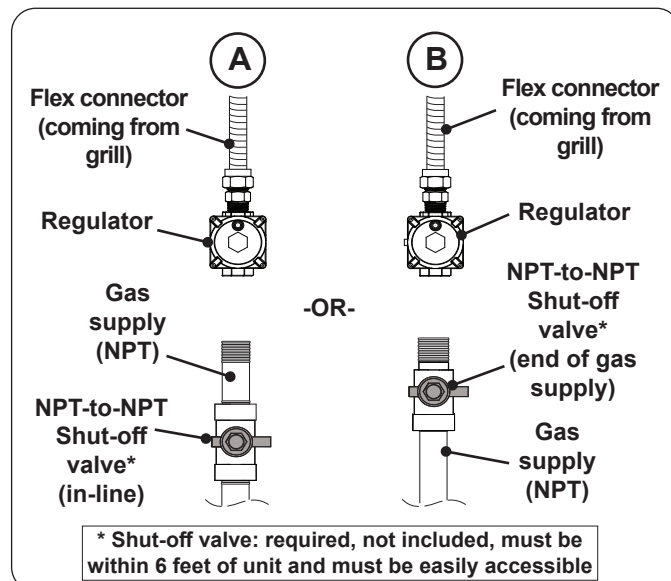

Fig. 27-1 Household propane & natural gas diagram
- Connect the regulator (on end of flex connector) to the gas supply (NPT) OR shut-off valve (NPT) using a pipe joint compound resistant to all gasses (see Fig. 27-1, A or B). Tighten securely. The regulator may need to be disconnected from the flex connector to make the proper connections. Reconnect the flex to the regulator if removed.